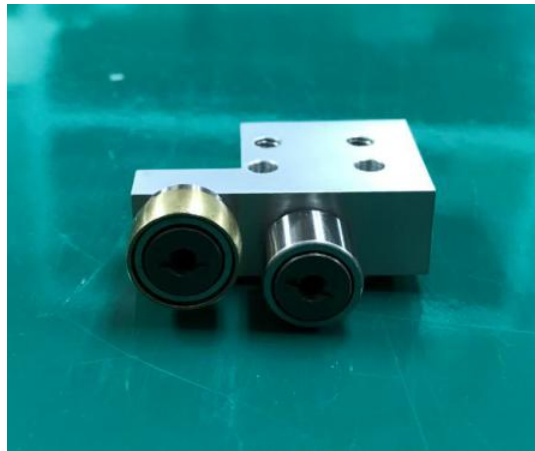

Figure 25 Adjustable Rail End Pulley Kit
1. Prepare 1 unit of 4XASP-A140 as shown in Figure 25